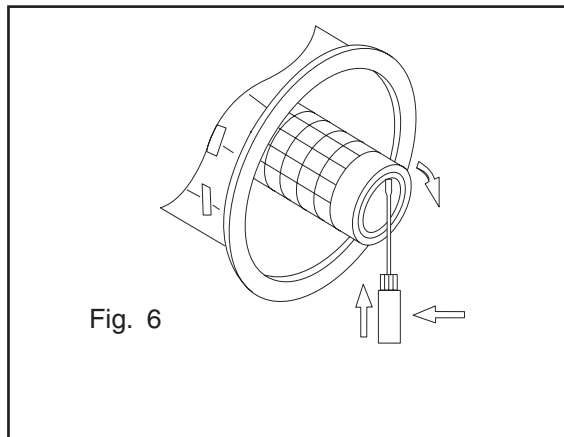

Fig. 6
3. Remove the inner element; Use a suitable tool (e.g. screwdriver) to push through the seal of the inner element from the inside to the outside and pull both the straps upwards (fig. 6).